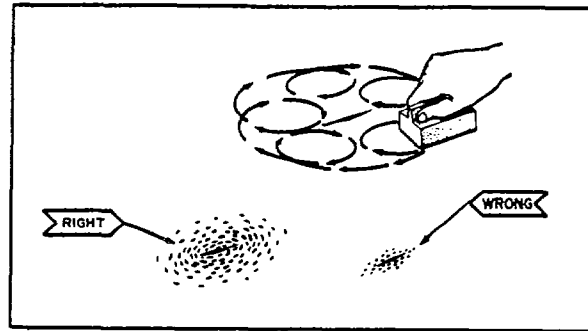

Figure 2-18. Hand Setting of Transparent Plastic Panels
c. Repair scratches in the plastic panel as follows: Hairline scratches may be removed by rubbing with a commercial automobile-body cleaner. Deeper scratches must be sanded with No. 320 or finer sandpaper wrapped around a rubber or wood block. Sand the plastic surface with a circular motion as illustrated in figure 2-18 always wetting the abrasive with water to prevent scratching the surface further. Do not exert excessive pressure. The sanding operation would be continued using progressively finer abrasives until the scratches disappear. Wash the sanded area with clean water to remove gritty particles. The sanded area will be cloudy in appearance. Restore full transparency by using a buffing wheel loaded with protective coating, Specification No. MIL-C-6799. Use a moderate surface speed since excessive wheel speed will produce heating and distortion of the plastic surface. When the cloudiness has disappeared, wash the area